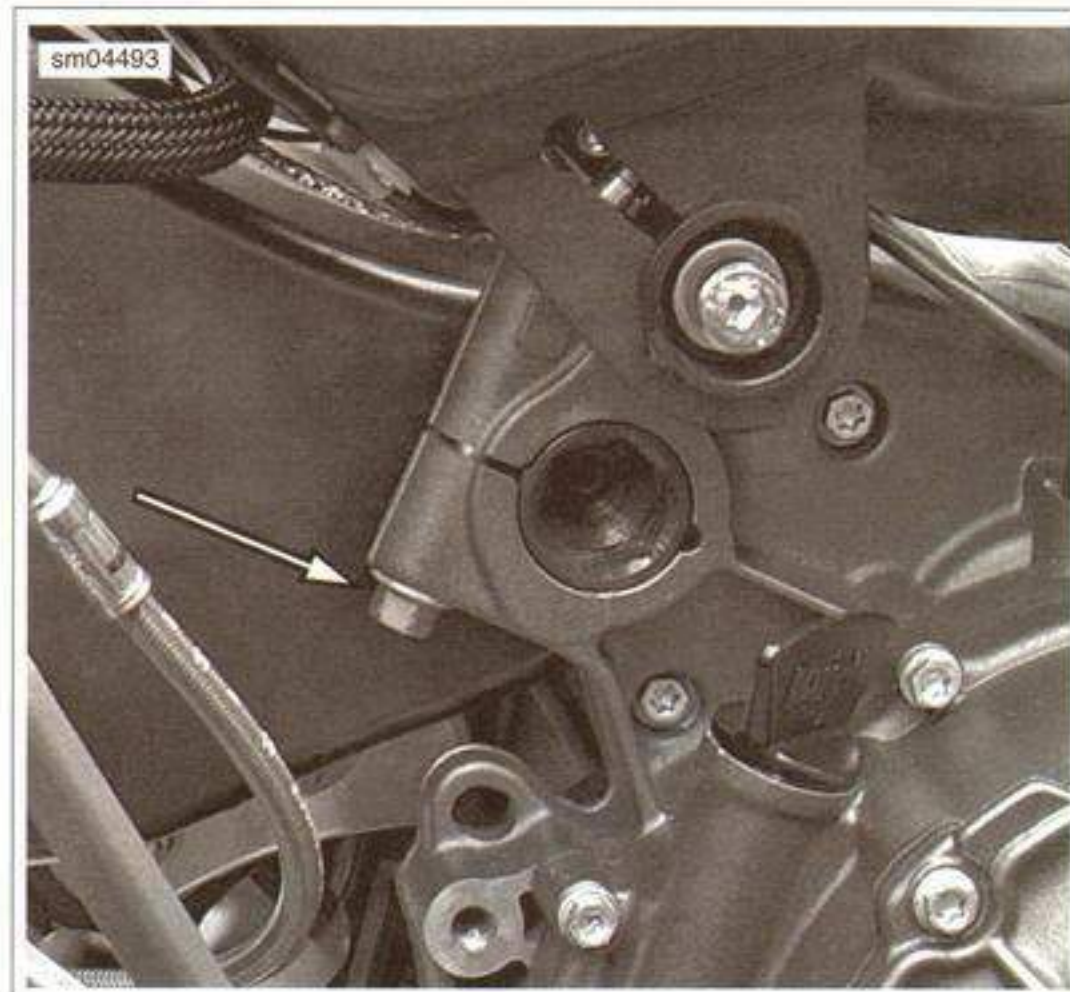

Figure 2-111. Swingarm Pivot Pinch Bolt
10. See Figure 2-111. Loosen pivot shaft pinch bolt in engine clamp.